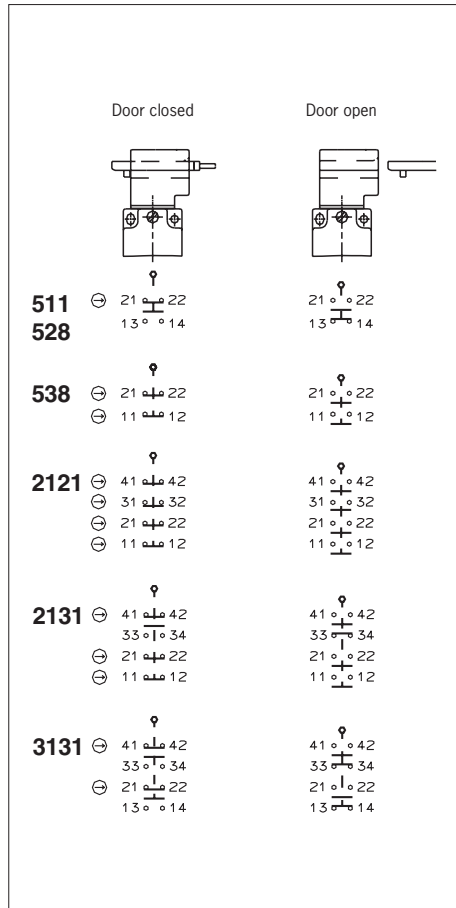

Fig. 2: Switching elements and switching functions
At least one contact (⊕) must be used. It signals the guard locking state (for terminal assignment, see Fig. 2).
2. Connect and tighten terminals with 0.5 Nm (for terminal assignment, see Fig. 2).